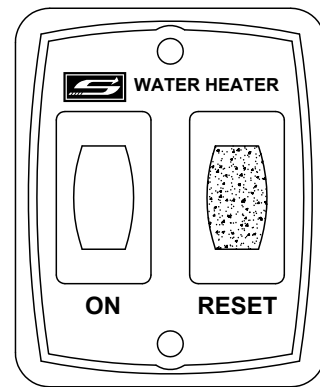

Figure 8A
7. Turn switch to "ON" position. If the burner does not light, the system will automatically attempt two more tries for ignition before lockout. See Figure 8A.